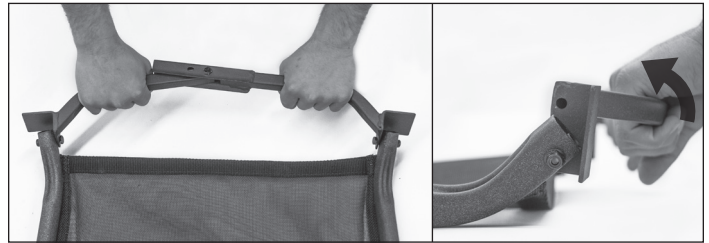

FIGURE 12a - Front hinged brace in vertical position
g. Rotate the front hinged brace towards the seat to lock the brace in position. **SEE FIGURES 12a and 12b.**